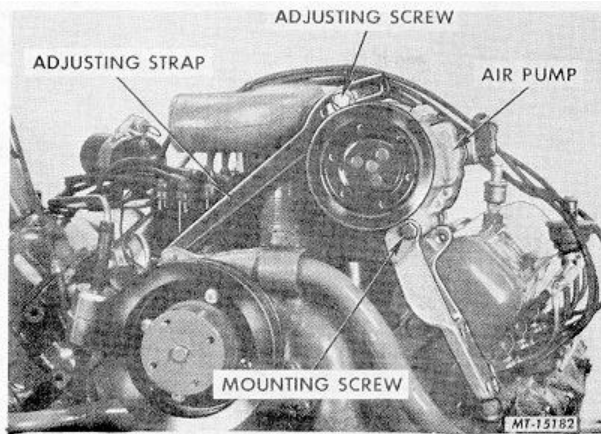

Fig. 14 Removing Air Pump and Adjusting Strap
- Remove air pump adjusting screw and mounting screw. Then remove air pump. Also remove adjusting strap, Fig. 14.